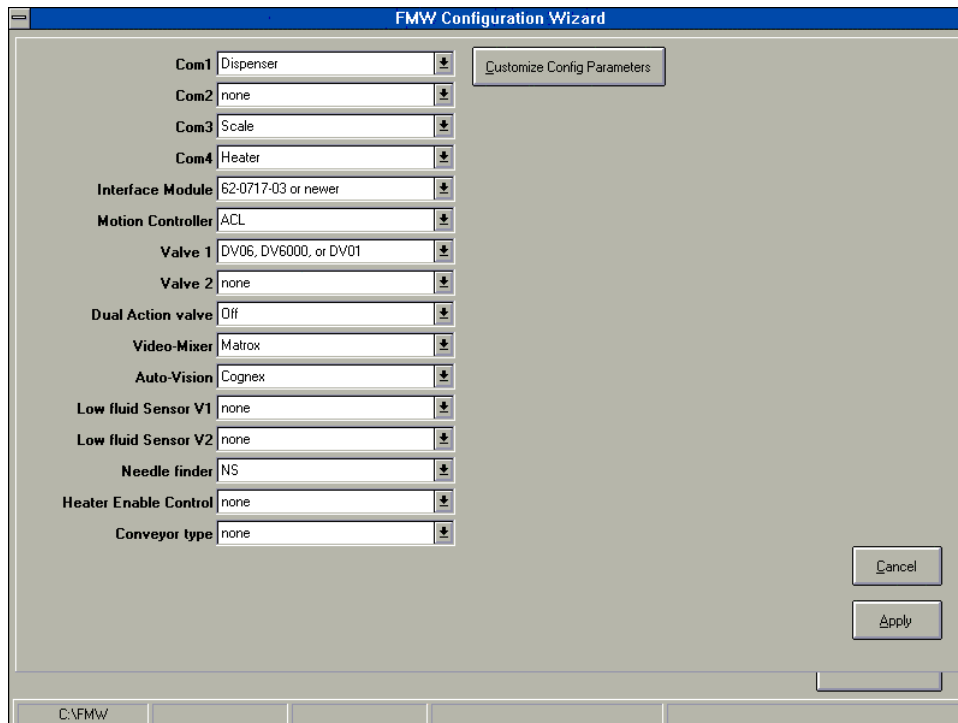

Figure 6-1
- ▶ A secondary Configuration Window, shown in Figure 6-1, opens.